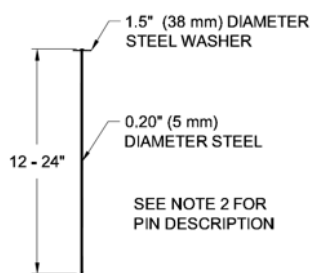

Figure 4: Securing pin
- Secure **PROPEX** Pyramat with pins in the COS trench. Pins should be made of steel with a 0.20 in (5 mm) minimum diameter, having a 1.5 in (38 mm) diameter washer at the head, and a length between 12 and 24 in (300-600 mm) with sufficient ground penetration to resist pullout (Figure 4). Longer pins may be required for looser soils. Heavier metal stakes may be required in rocky soils. Suggested placement of pins for the COS trench is along the bottom of the trench with pins on 12 in (300 mm) centers. Pins should also be installed on panel edge overlaps in the COS trench.